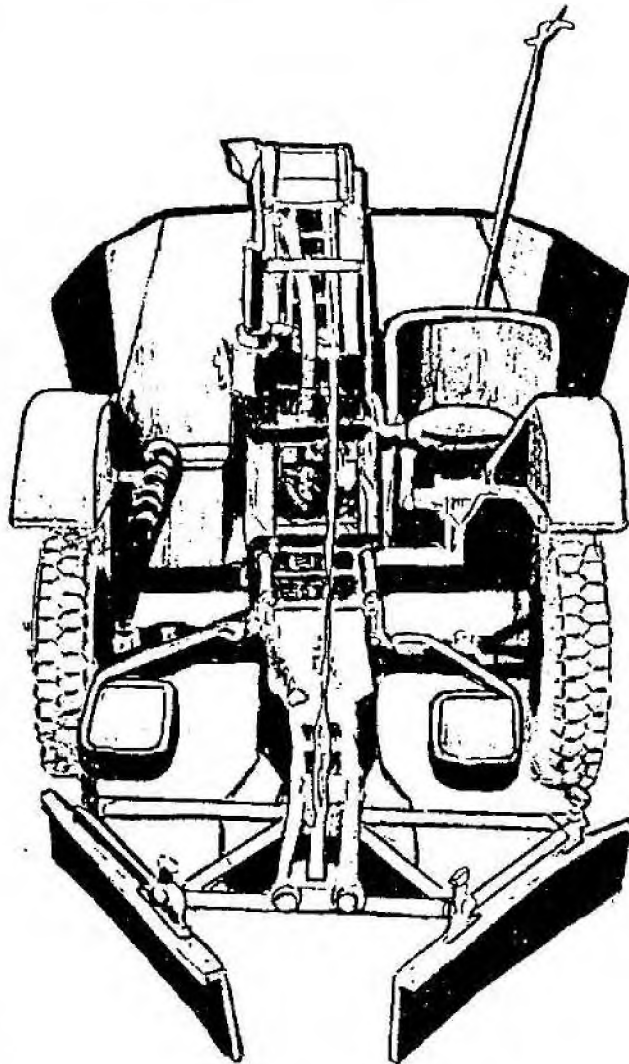

Figure 7-1. Soviet PMR-3 trailer mine layer.
a. This is a trailer-mounted piece of equipment (fig. 7-1) capable of planting mines at a spacing of 4- or 5.5-meter distance. This mechanical mine